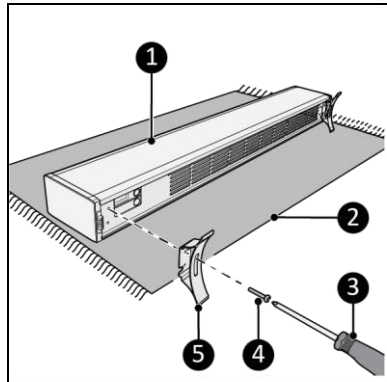

Figure 6
1. Lay the device down on a steady soft surface (Figure 6, pos. 2).
2. Place the pedestals (Figure 6, pos. 8) on both sides of the main body (Figure 6, pos. 1).
3. Screw and tighten the pedestals with a small screw (Figure 6, pos. 4) using a Phillips screwdriver (Figure 6, pos. 3).